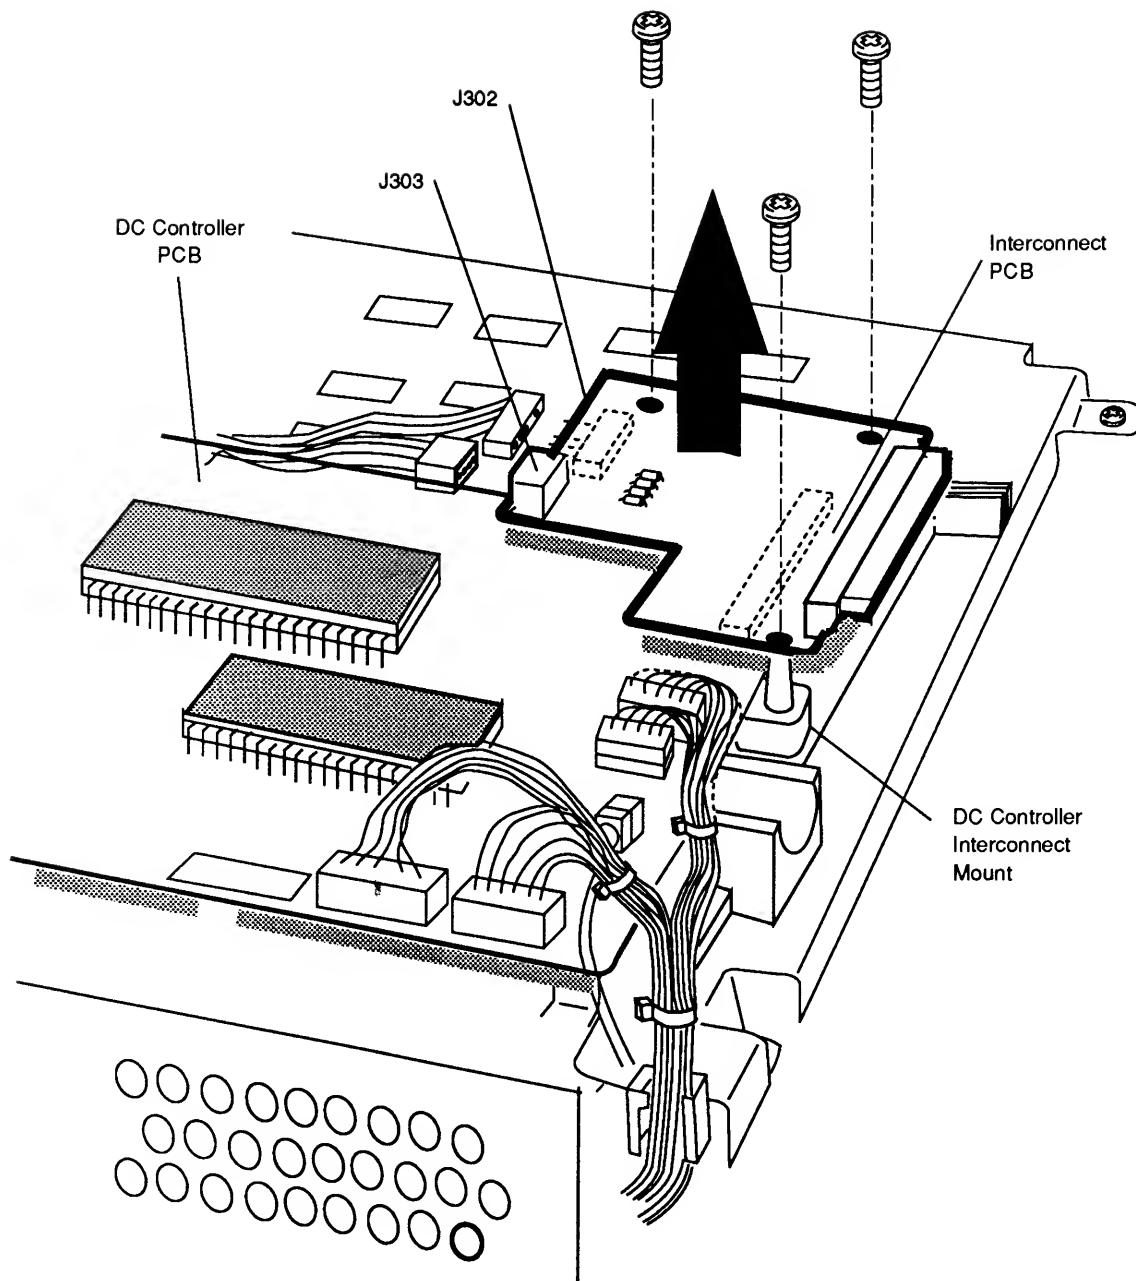

Figure 2-25 Interconnect PCB (LaserWriter NTR, NT and SC)
2. Carefully disconnect connectors J302 and J303 from the interconnect PCB (**Figure 2-25**).
3. Remove the three black screws that hold the interconnect PCB to the DC controller interconnect mount (**Figure 2-25**).
4. Lift the interconnect PCB out of the printer (**Figure 2-25**).